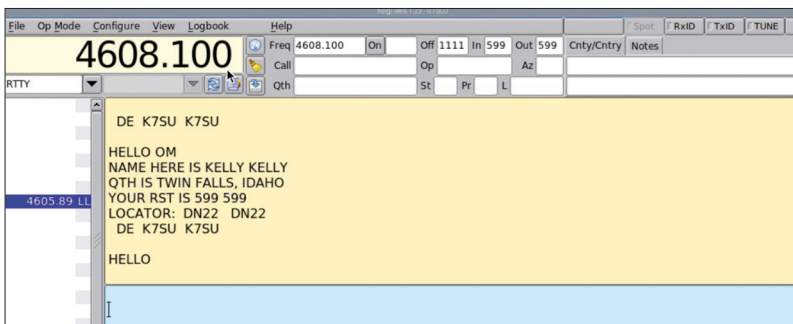

Figure 13.13: Test RTTY.
- Set the two vertical lines to the sides of the waterfall. You should see messages similar to Figure 13.13 displayed on your fldigi screen.